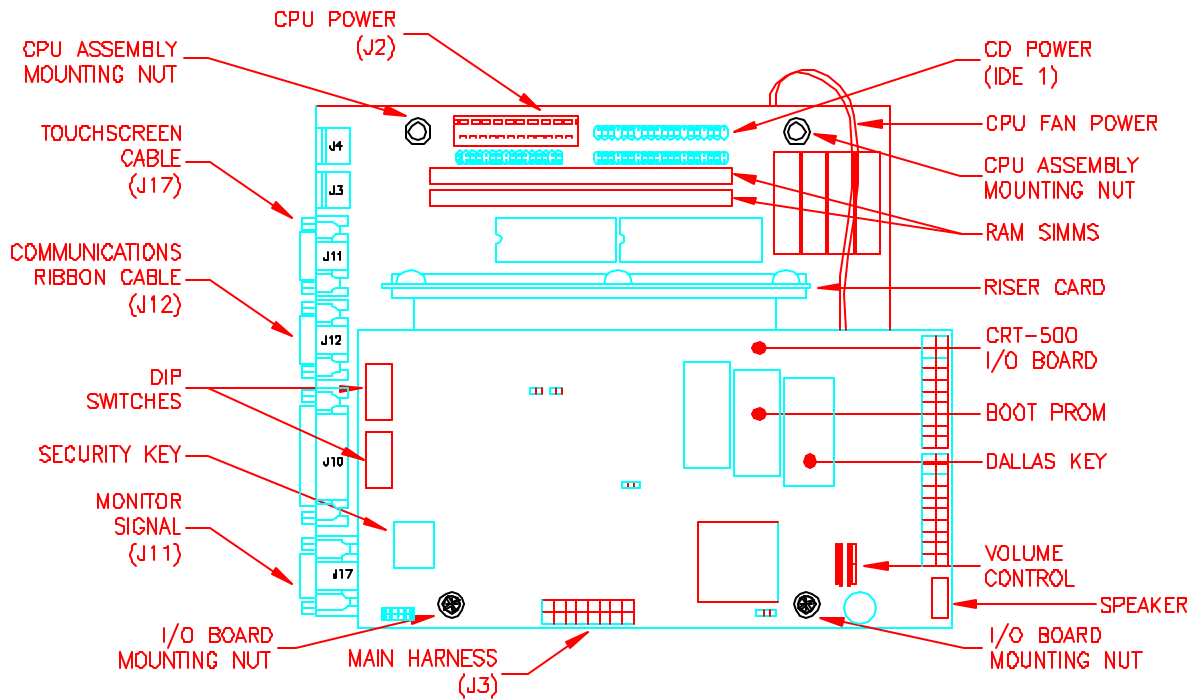

FIGURE 1 - TELCO MOTHERBOARD AND I/O BOARD ASSEMBLY
3. Disconnect all connectors from the CPU and I/O boards. Use Figures 1 and 2 to determine board type and connector locations.
4. Using a 1/4" nut driver, remove the two- (2) nuts from the motherboard assembly (shown in Figures 1 and 2).
3. Disconnect all connectors from the I/O board (see Figures 1 and 2 for connector locations).
4. Using a 1/4" nut driver, remove the two- (2) nuts from the I/O board securing it to the standoffs (shown in Figures 1 and 2).
2. Disconnect the blue communications ribbon cable connector from J12 on the motherboard (see Figures 1 and 2 for location).